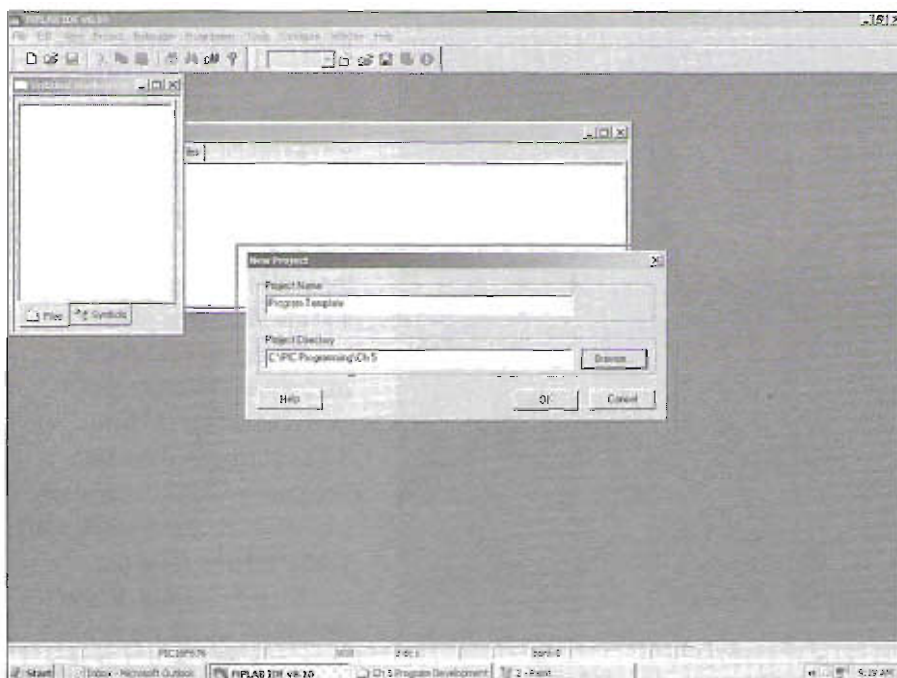

Figure 5-3 — NEW PROJECT File Management Dialog Box
Step 3. Click on the **NEW PROJECT** icon and a file management dialog box will popup and ask for a file name for the project that is going to be developed and the location within your computer's file directory where the working files will be stored (Figure 5-3). A *project is a collection of files associated with a program* that you are going to develop. As a technique, try to use descriptive project and file names to make it easier to locate these files in the future. Enter a project name "Program Template" and browse your directory until you locate the **PIC Programming/Ch 5** file folder you created in Step 1.